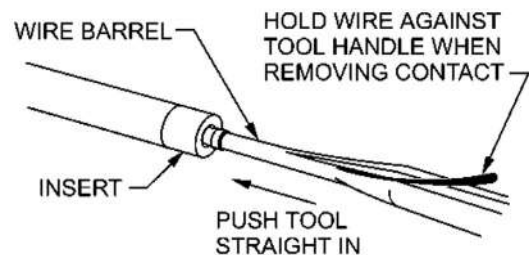

Figure 4-44 Contact Removal from Removable Contact Wire Splices
- a. With the module facing you, snap the white end of the appropriate size double-ended plastic tool over the wire of the contact to be removed. (See Figure 4-44.)